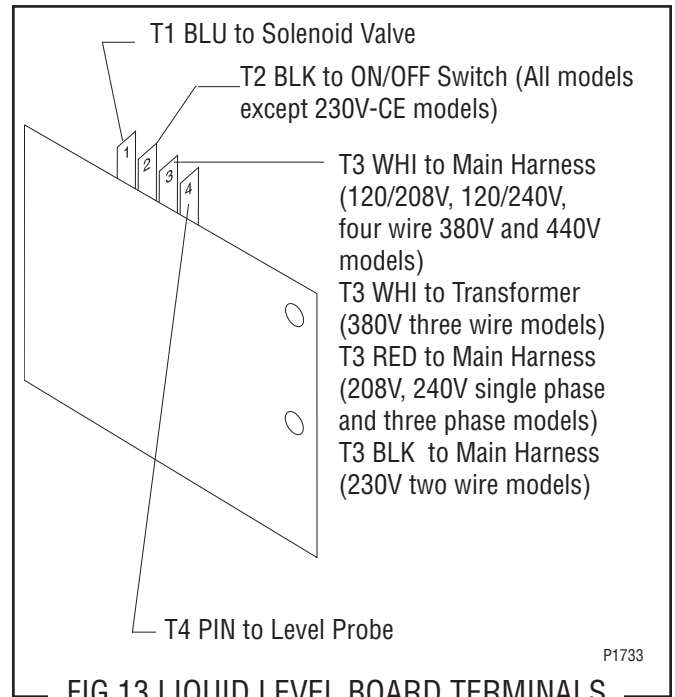

FIG.13 LIQUID LEVEL BOARD TERMINALS
7. Refer to Fig. 13 and reconnect the wires.